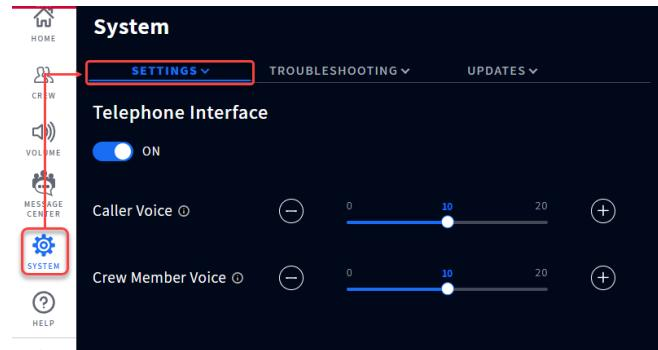

Fig. 12.4
2. Log in to the NEXEO base station and go to SYSTEM>SETTINGS. Select Telephone Interface from the drop-down list, see Fig. 12.4. Toggle the OFF switch ON. The recommended default values are set to 10. If necessary, the volume levels can be adjusted using the sliders.